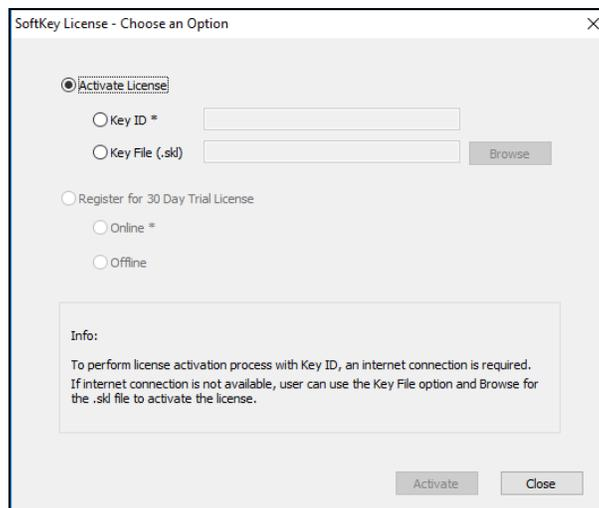

Figure 9. Activate License
- a. From the **CHOOSE AN OPTION** page (Figure 9), select **KEY ID**.
- b. From the **CHOOSE AN OPTION** page (Figure 9), select **KEY FILE (.skl)**.